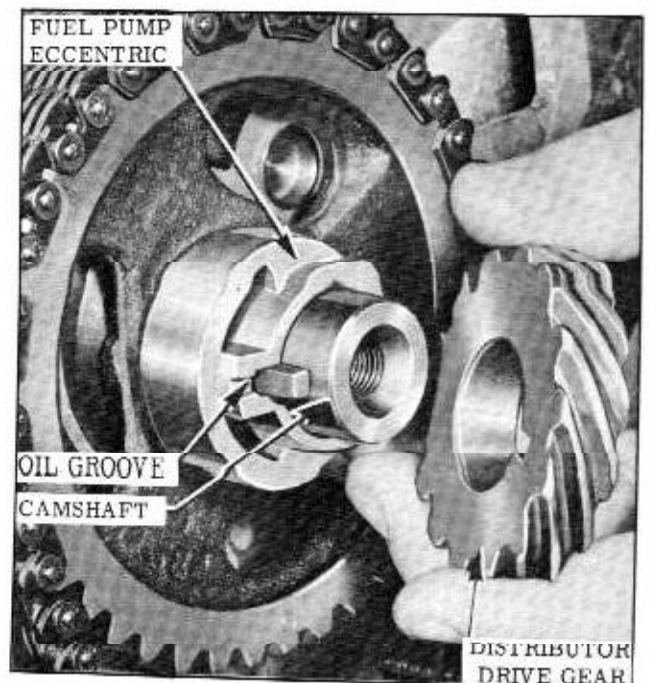

Fig. 8-42 Fuel Pump Eccentric
2. Install fuel pump eccentric with flat side rearward, distributor drive gear, washer and bolt. Torque bolt 40-45 ft. lbs. (Fig. 8-42)